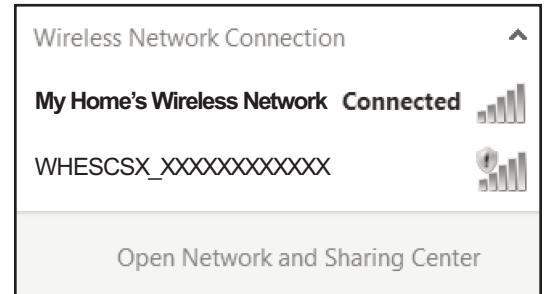

FIG. 20
2. On your device (laptop, tablet or smart phone), open a wireless network control panel to display a list of the wireless networks in range (See Fig. 20).
6. On your device (laptop, tablet or phone) go back to the wireless network control panel (list of networks in range) and reconnect to your home's network (See Fig. 20).